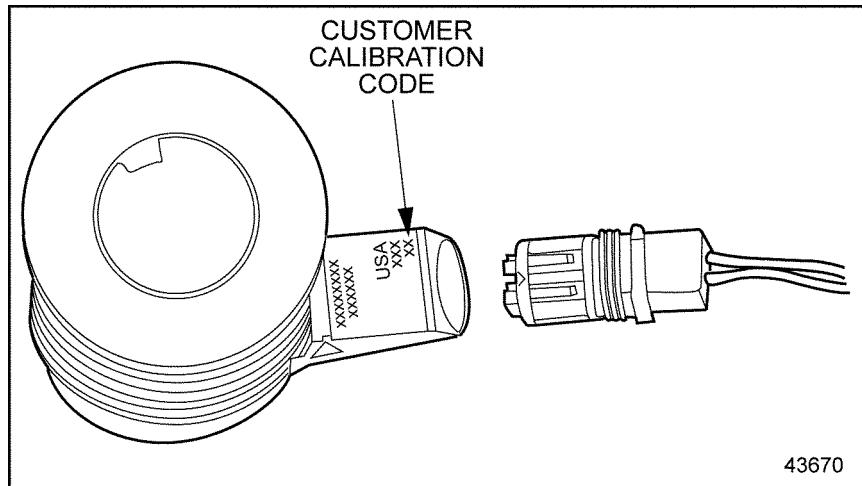

Figure 10-2 **Injector Calibration Code**
2. Compare the calibration code(s) shown on the Detroit Diesel Diagnostic Link display with the two digit calibration code(s) on the injector(s). See Figure 10-2.
- [b] If the calibration code on the display is different then the calibration code on the suspect injector for that cylinder, the injector setting must be reset, see Figure 10-2; refer to section 10.5.1.